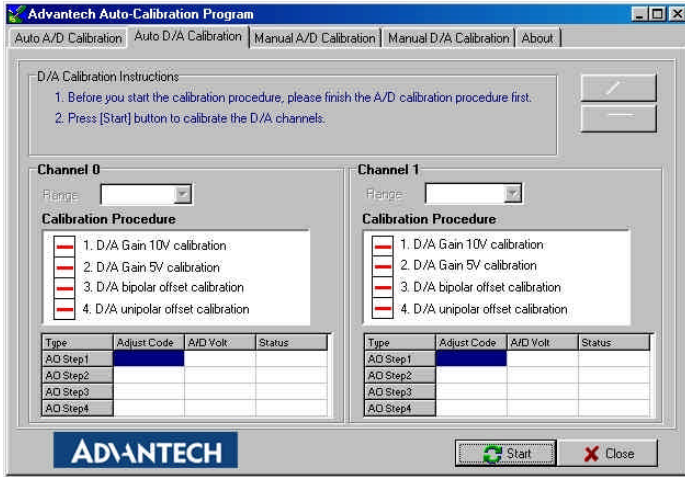

Fig. 5-9: Range Selection in D/A Calibration
Step 9: Click the *Auto D/A Calibration* tab to show the D/A channel auto calibration panel. Please finish the A/D calibration procedure first before you start the D/A calibration procedure. There are two D/A channels in MIC-3716; select the output range for each channel and then press the start button to calibrate the D/A channels (Fig. 5-9).